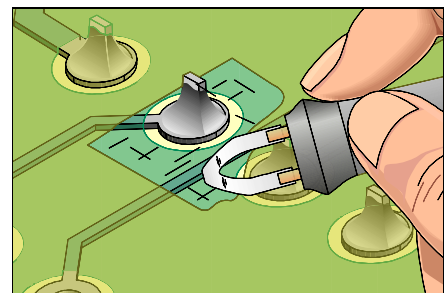

Figure 1: Lightly apply thermal tip to coating to soften or granulate the material.
2. Apply the thermal parting tip to the coating, using a light pressure. The coating material will either soften or granulate. Polyurethanes will soften and epoxies will granulate. The tip temperature should be regulated to a point where it will effectively "break down" the coating without scorching or charring. (See Figure 1).